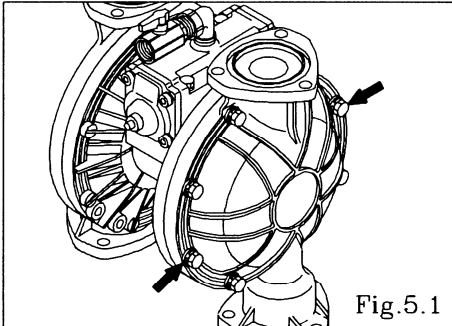

Fig.5.1
- Remove the 16 (24 on the NDP-80) retainer bolts from the out chamber, and remove the out chamber. [Fig.5.1]